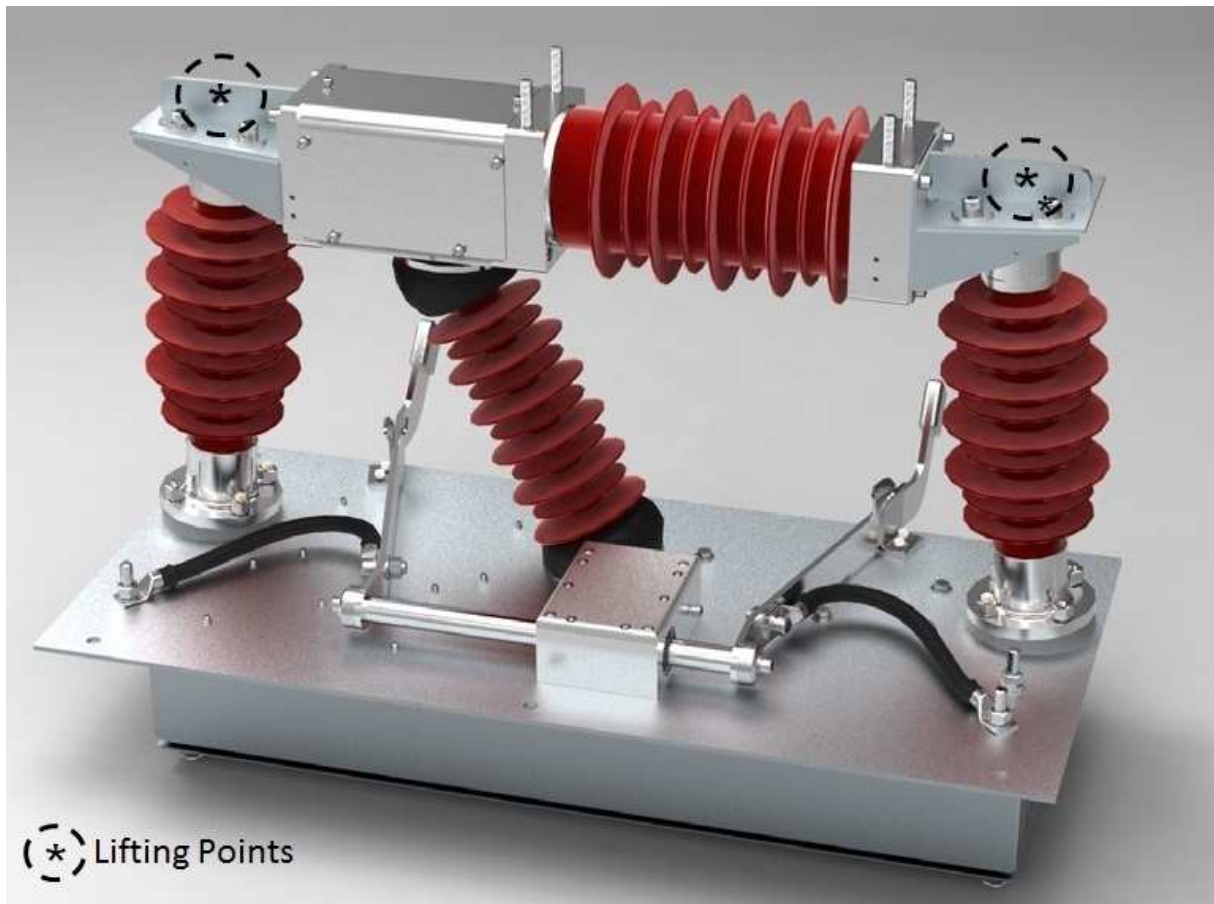
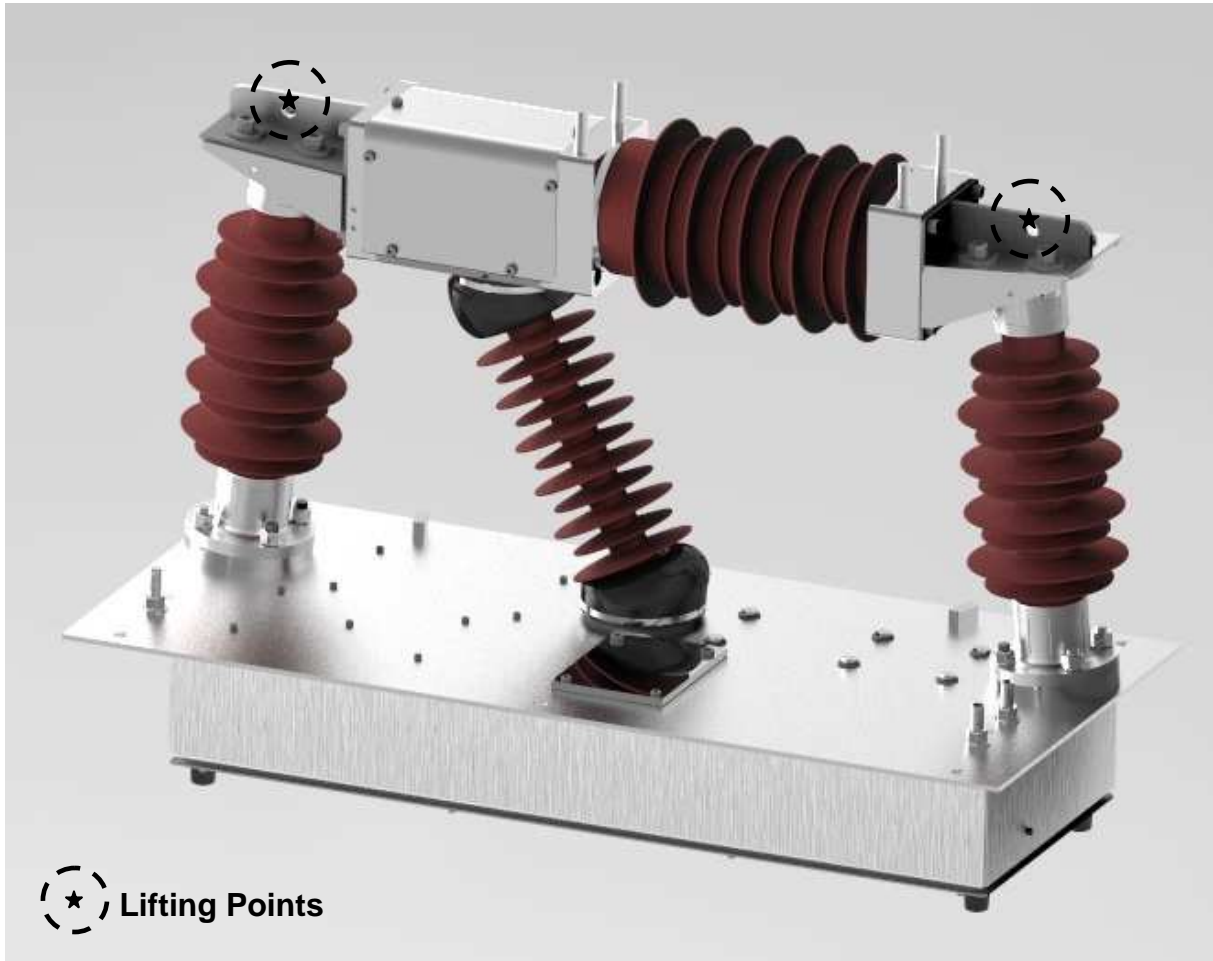
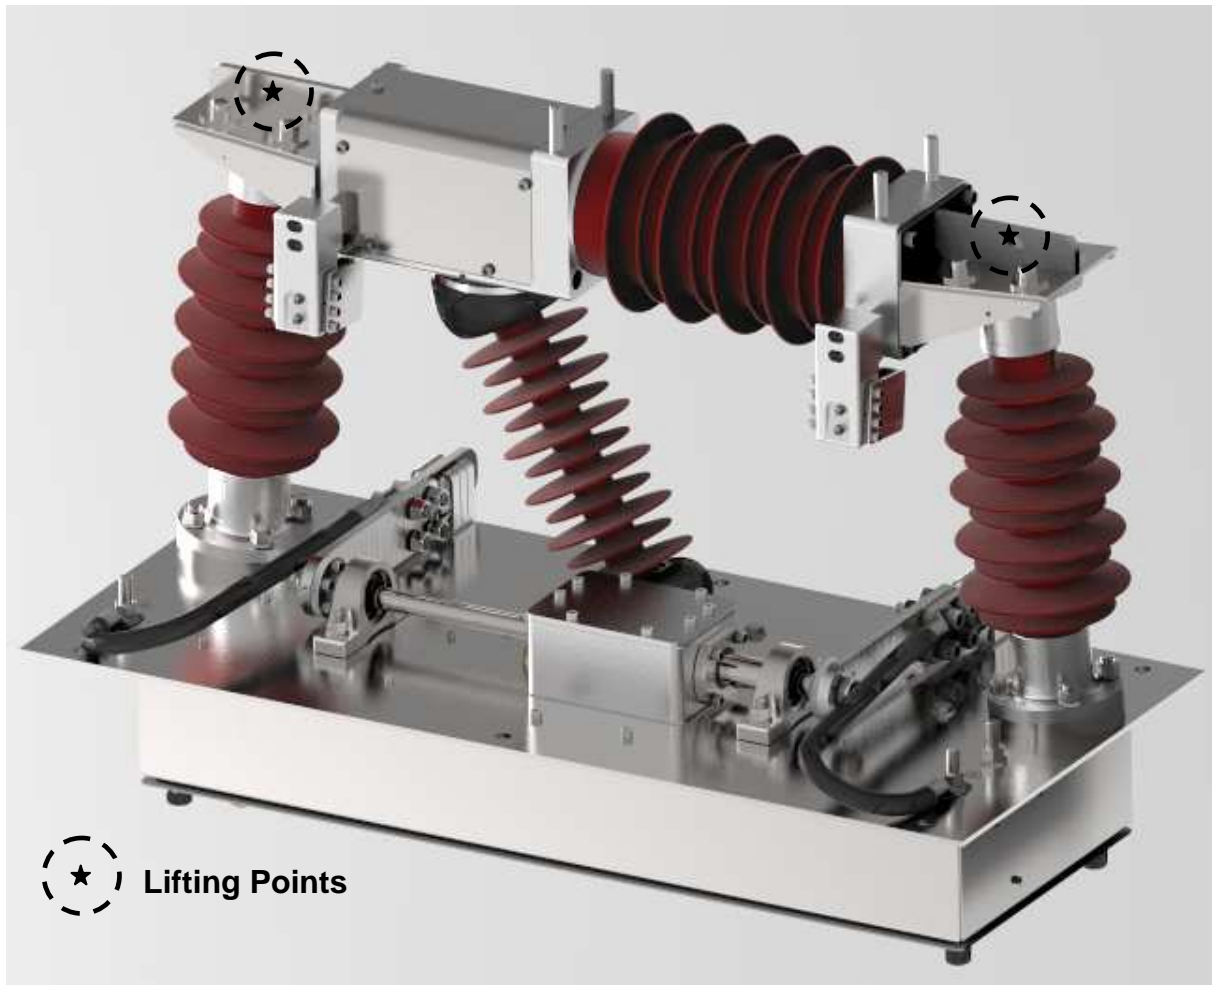
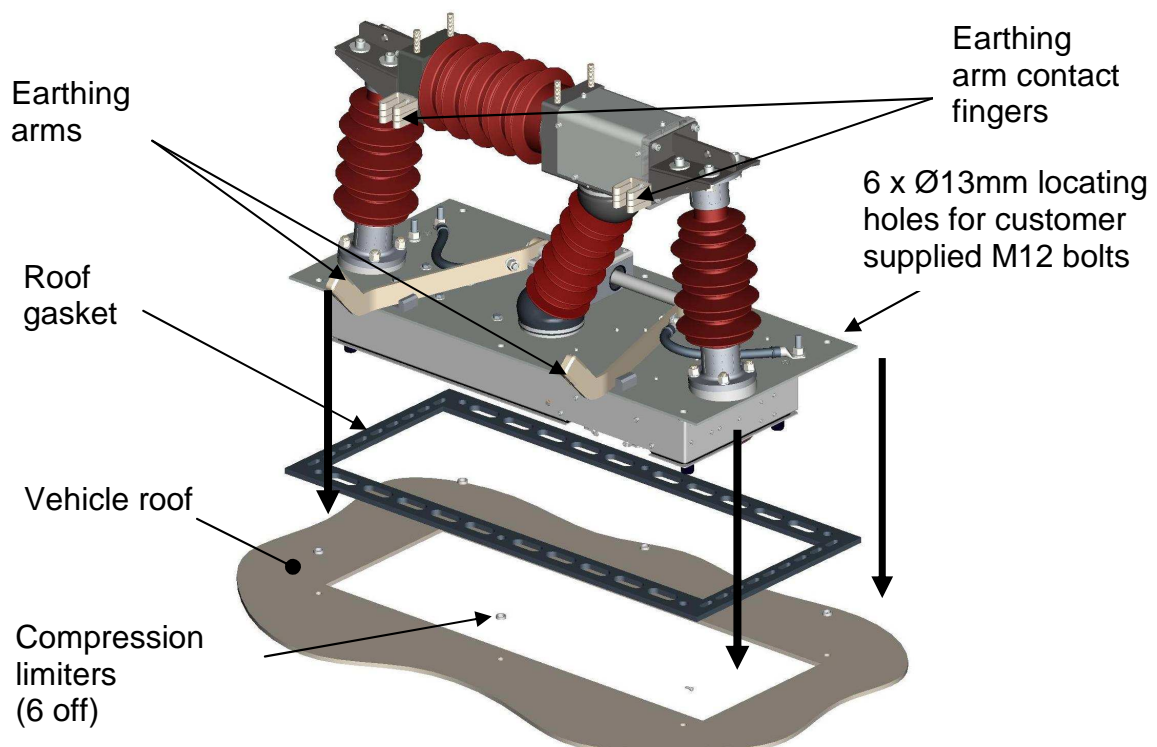

Figure 10: VESA 101 Lifting points
Figure 11: VESA 102 Lifting points
Figure 12: VESA 103 Lifting points
Figure 13: VESA 101 Installation onto vehicle
Note: Only the specified lifting points as indicated in Figure 10 or Figure 11 and Figure 12 shall be used. Failure to comply with this may affect the warranty.
The unit is delivered ready for direct mounting onto the train as detailed in Figure 13 (VESA 101), Figure 11 (VESA 102) and Figure 12 (VESA 103). There is no assembly, calibration or set-up work to carry out before installation. The use of a torque wrench is required when installing the product on the train.
- b) Attach suitable hooks from an overhead hoist (ensure that it is capable to lift the weight of the equipment as defined in 1.4.7.2) to the $\text{\O}15\text{mm}$ lifting holes as shown in Figure 10 (VESA 101), Figure 11 (VESA 102) and Figure 12 (VESA 103).